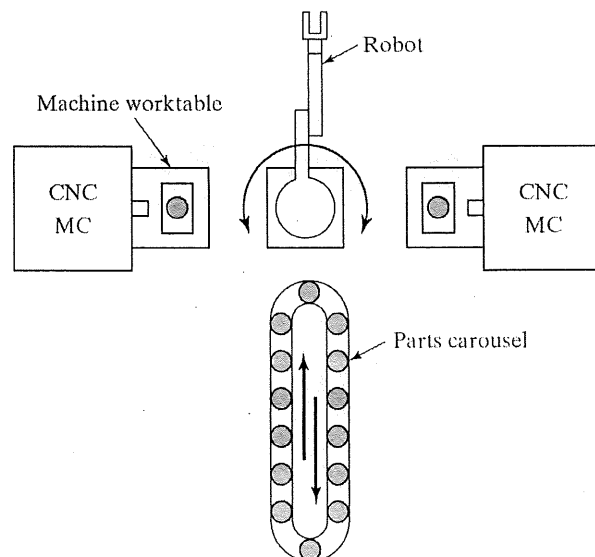

Figure 4: Robot-Centered Manufacturing Cell
- a) Classify four (4) types of flexibility in FMS. (8 Marks)
- b) Figure 4 depicts a manufacturing cell with automation, but is it a flexible manufacturing cell? Evaluate this circumstance by providing a thorough explanation. (10 marks)